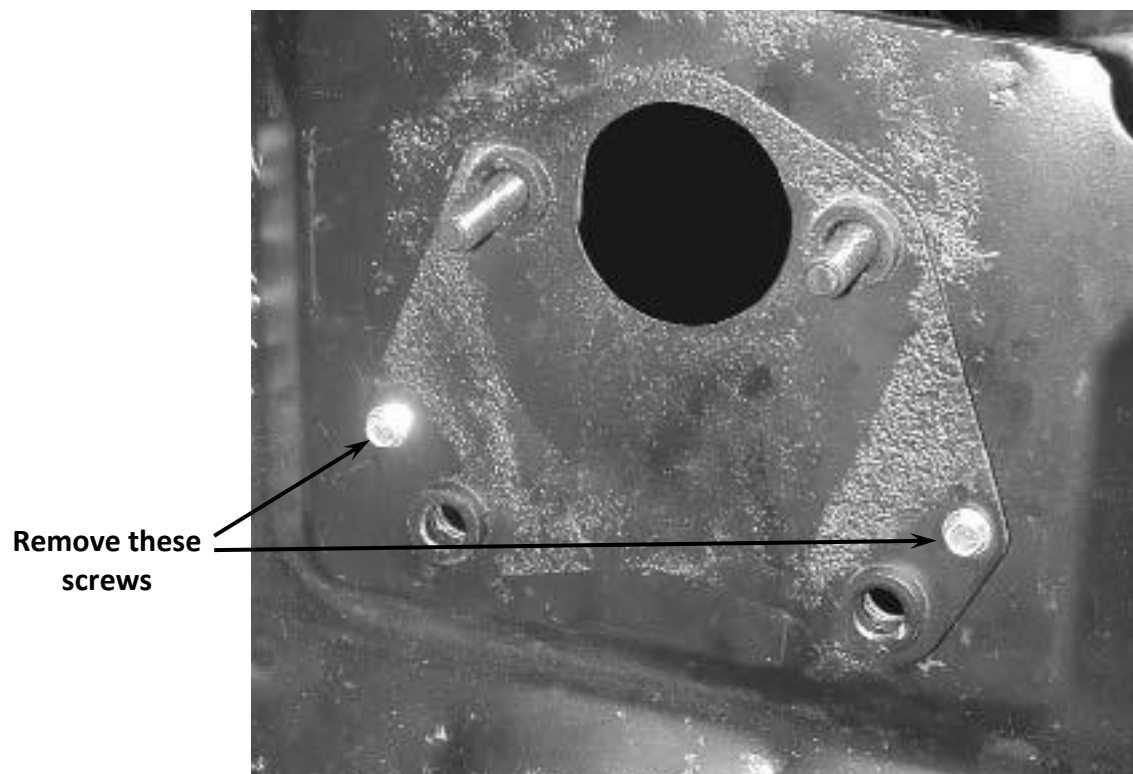

Figure 1 – Close Out Panel to Firewall
2. Remove the firewall close out plate from the firewall along with the two studs that originally held the master in place. The firewall close out plate should be able to be removed with the removal of the two screws toward the bottom of the plate. See Figure 1 below for reference.